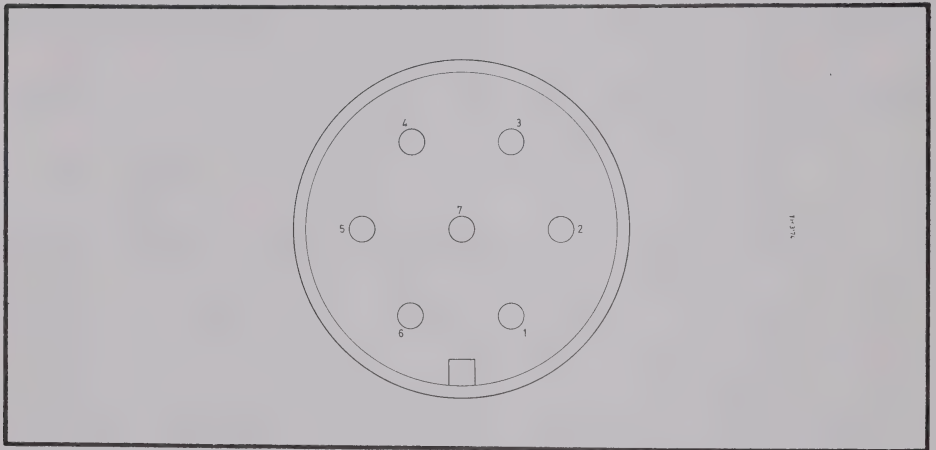

Fig. 6.1 Input Socket
- (b) Switch on the 9303. Using the DVM, measure the voltage, relative to 0 V, on pin 2 of the front panel INPUT socket (see Fig. 6.1). Adjust R44 on assembly 19-1014 until the measured voltage is between +14.99 V and +15.01 V.